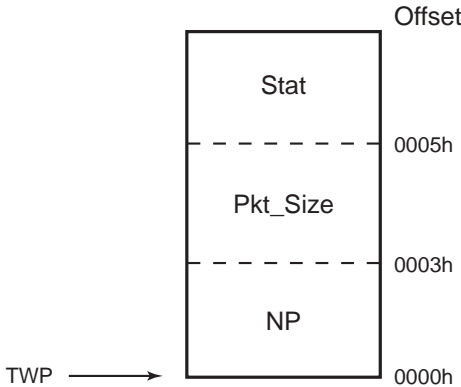

Figure 62. Descriptor Table Entries
The TxDMA module moves the next packet to be transmitted from EMAC memory into the TxFIFO. Whenever the polling timer expires, the TxDMA reads the High status byte from the Tx descriptor table pointed to by the Transmit Read Pointer, TRP. Polling continues until the High status Read reaches bit 7, when the Emac_Owns ownership semaphore, bit 15 of the descriptor table (see Table 178 on page 295) is set to 1. The TxDMA then initializes the packet length counter with the size of the packet from descriptor table bytes 3 and 4. The TxDMA moves the data into the TxFIFO until the packet length counter downcounts to zero. The TxDMA then waits for Transmission Complete signal to be asserted to indicate that the packet is sent and that the Transmit status from the EMAC is valid. The TxDMA updates the descriptor table status and resets the ownership semaphore, bit 15. Finally, the Tx_DONE_STAT bit of the EMAC Interrupt Status Register is set to 1, the address field, DMA_Address, is updated from the descriptor table next pointer, NP (see Figure 62 on page 294). The High byte of the status is read to determine if the next packet is ready to be transmitted.
The descriptor table contains three entries: the next pointer (NP), the packet size (Pkt_Size), and the packet status (Stat), as displayed in Figure 62.